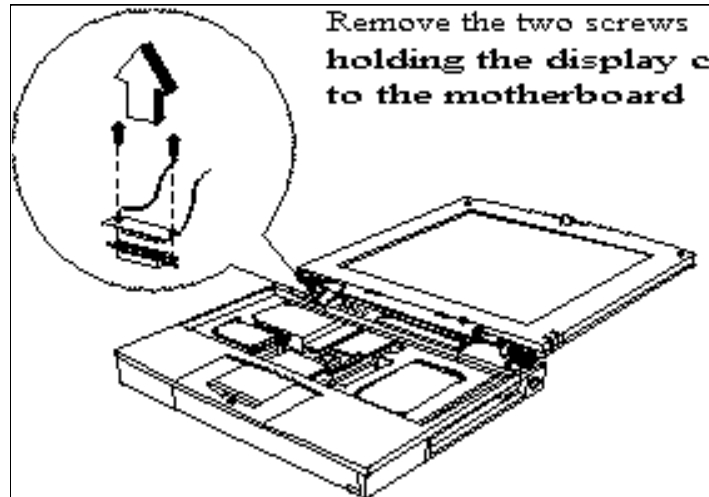

Figure 6-12 Unplugging the Display Cable
2. Refer to Figure 6-12 and remove the two screws that secure the display cable to the Motherboard assembly. Then unplug display cable J19